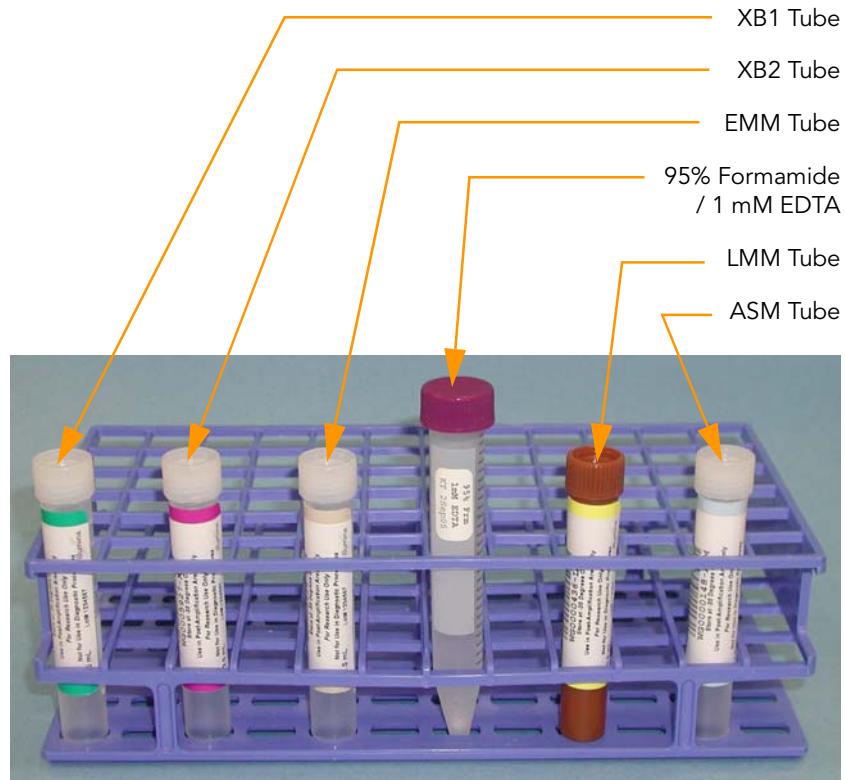

Figure 68 XStain BC2 Reagent Tubes
- ▶ Place all reagent standoff tubes in a rack in the order in which they will be used (Figure 68).